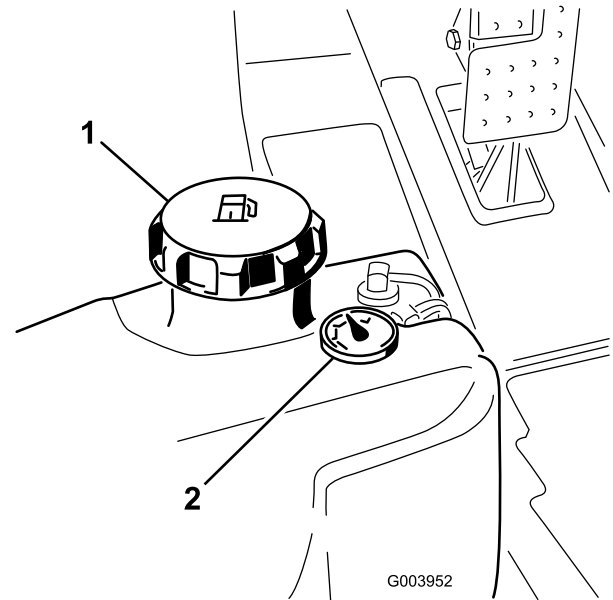

Figure 35
3. Remove cap from the fuel tank (Figure 35).